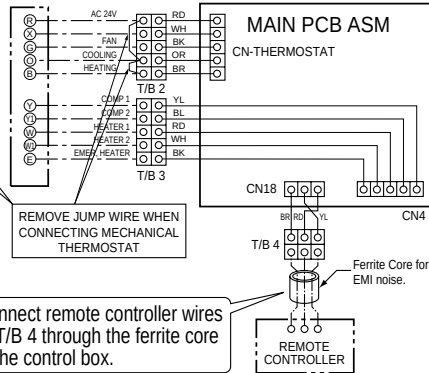

Figure 5F
■ Heat pump - 2 Comp, 2 Heater(Figure 5F) Thermostat(Heat pump model)